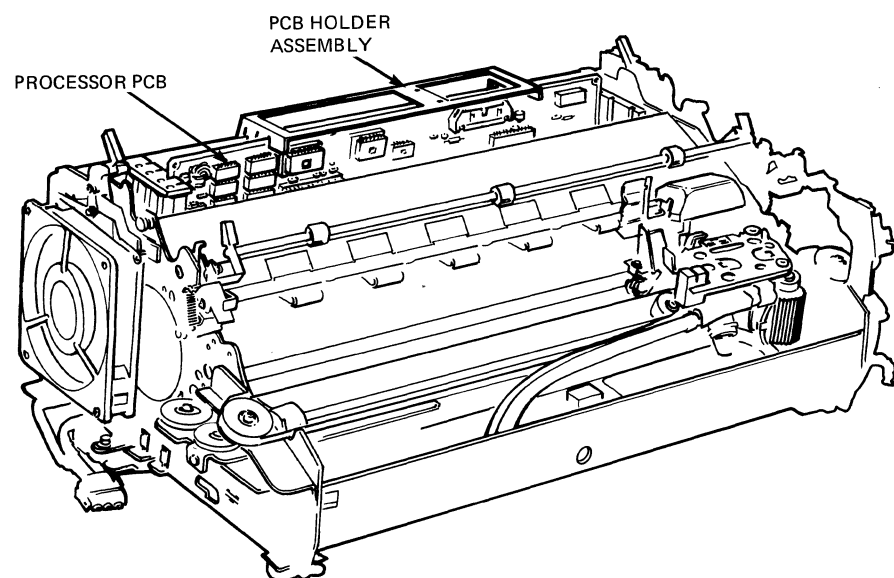

Figure 4-5 Processor PCB Location
- f. Loosen the screws securing the PCB holder (see Figure 4-5). Remove the holder.